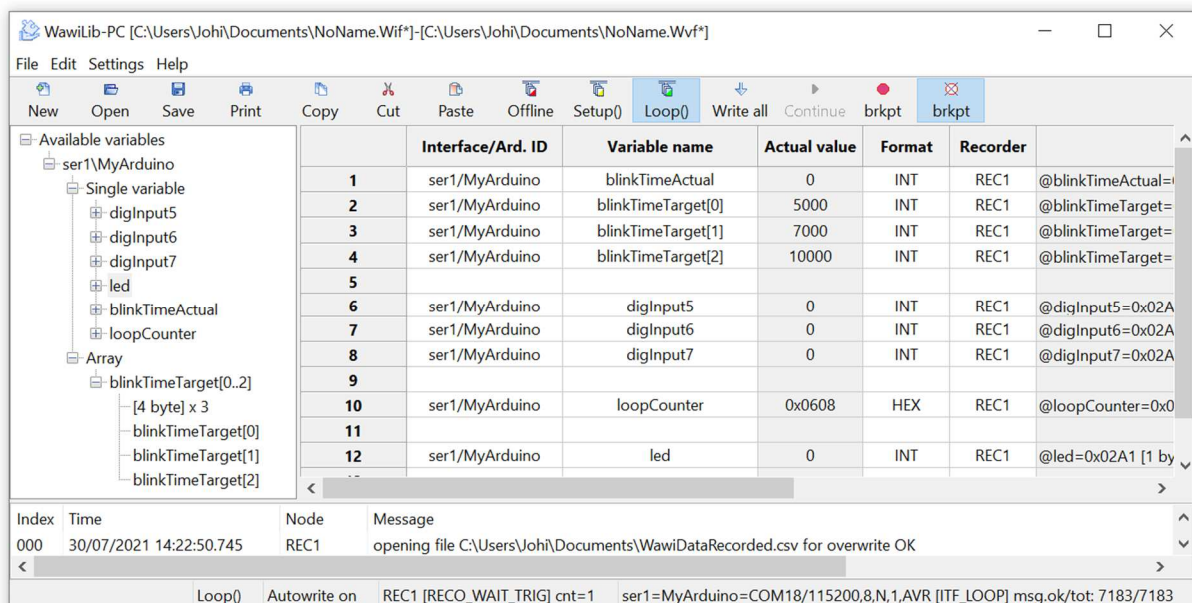

Fig. 3.6. Variables linked to recorder 1.
✓ Fill in the WawiLib table as in fig. 3.6. and press ‘Setup()’.
- ✓ Disable and enable output window settings as in fig 3.6.